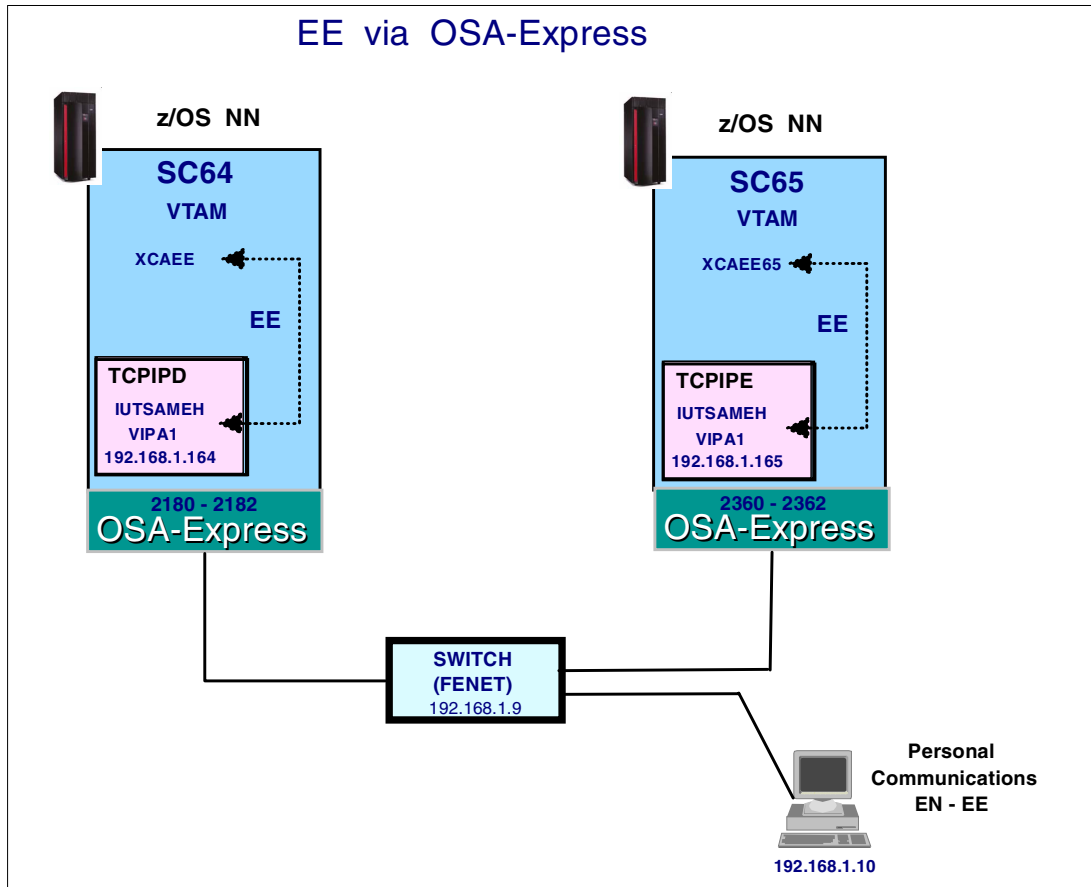

Figure 10-3 Network configuration
Figure 10-3 on page 145 shows the network configuration we used to define EE via OSA-Express. We enabled EE between two Network Nodes (NN) SC64 and SC65, and also defined EE in an End Node (EN) workstation using the IBM Personal Communications for Windows.